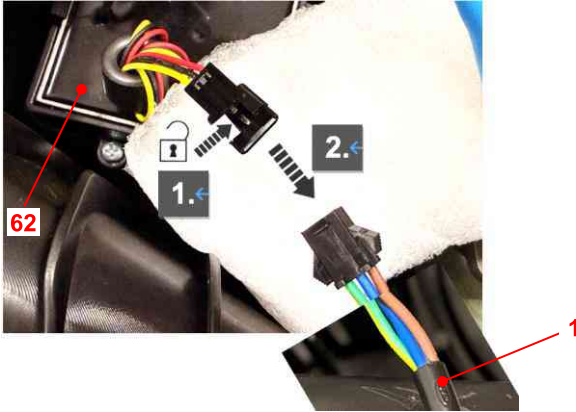

Fig. 17
3. Disconnect the wiring plug (1) from the 40V controller (62) (Fig. 17).